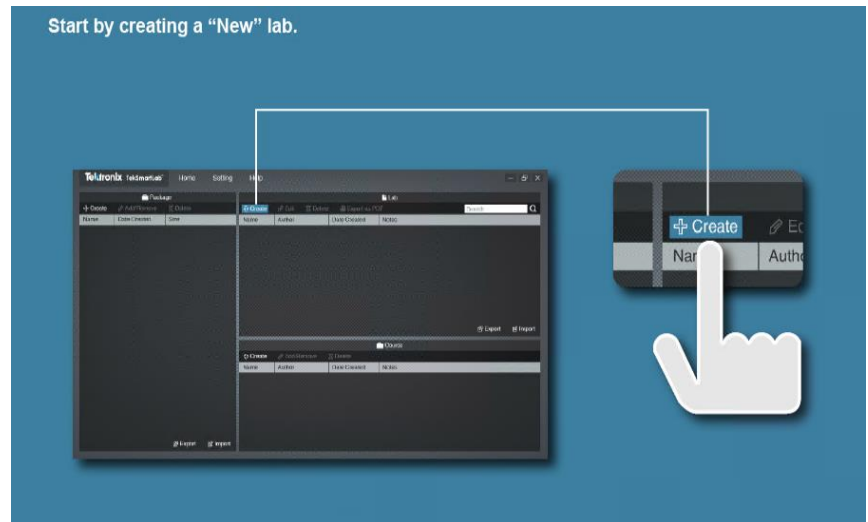

Figure 24. Creating a new lab in PC Courseware Editor V2.0
1. After installing an opening PC Courseware Editor V2.0 on your computer click the **Create** button under the **Lab** section(Figure 24).